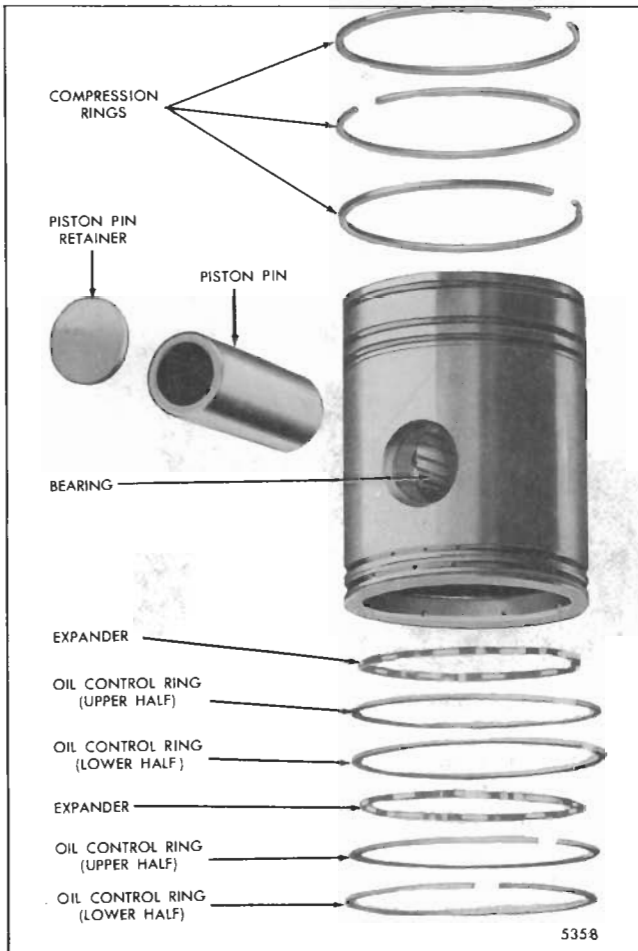

Fig. 12 - Typical Piston Assembly, Piston Rings, Pin and Relative Location of Parts
Each piston is fitted with a fire ring, two compression rings and two oil control rings (Fig. 12).
1. Starting with the bottom ring, install the compression rings with tool J 8128 as shown in Fig. 4. To avoid breaking or overstressing the rings, do not spread them any more than necessary to slip them over the piston. Refer to Figs. 12 and 16 for ring identification and location.